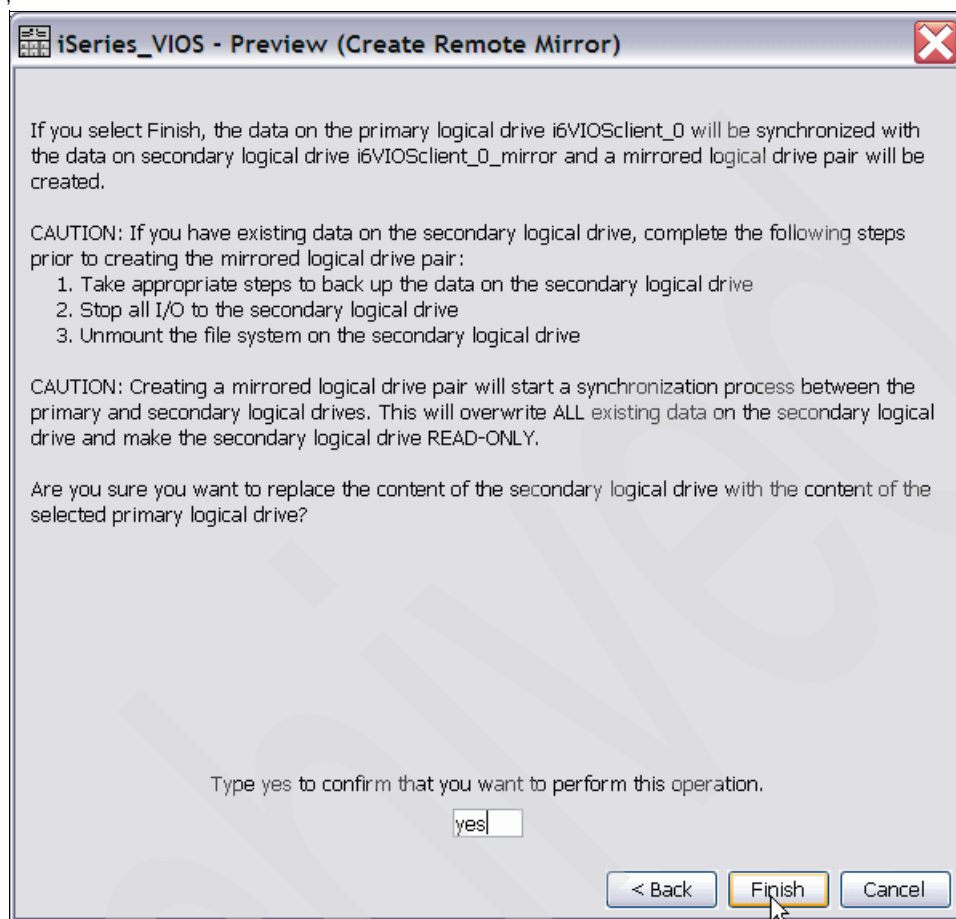

Figure 8-37 Confirm start of metro mirroring
10. On the next window you are asked to confirm the creating of metro mirroring. To confirm, type in Yes and click **Finish**, as shown in Figure 8-37.